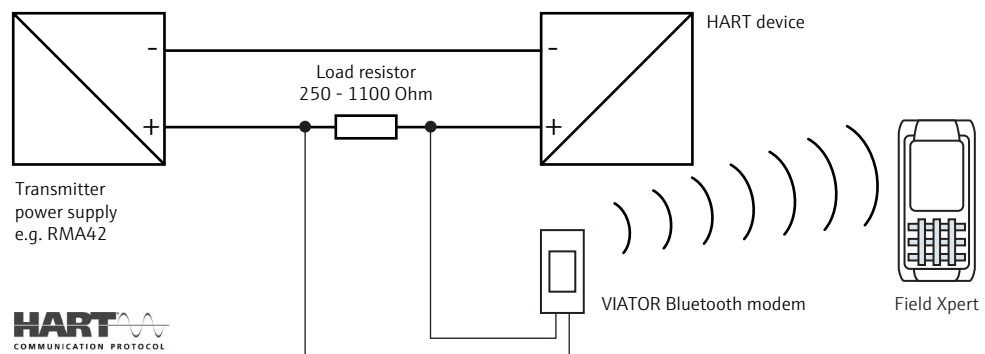

Fig. 2-2: Connection via load resistor
- For a normal transmitter power supply, e.g. RMA42, via a 270 Ω load resistor (250 Ω – 1100 Ω) connected into the loop as shown in Fig. 2-2